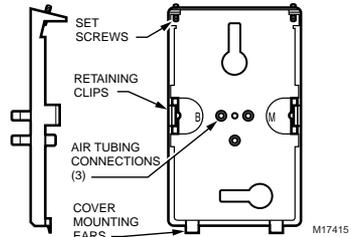

Fig. 5. Backplate.
7. Press thermostat onto backplate until it is fully seated and backplate clips have engaged (see Fig. 5).
- d. To remove thermostat cover, slowly drive screws clockwise until cover is free. To remove thermostat from backplate, spread retaining clips and separate (see Fig. 5).
NOTE: Ensure window orientation is correct. When viewed from front of cover, setpoint and Day/Auto openings are on either the bottom (vertical thermostat) or the right (horizontal thermostat). The cover has slots which must mate with backplate mounting ears (see Fig. 5).